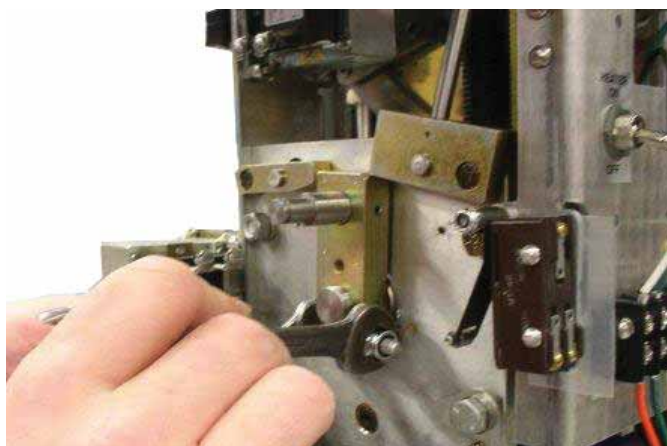

Figure 38.
- n. Using a 7/16" end wrench and torque wrench, torque the clamping nut and bolt to 6 ft-lbs. DO NOT OVER TORQUE. Refer to Figure 38.